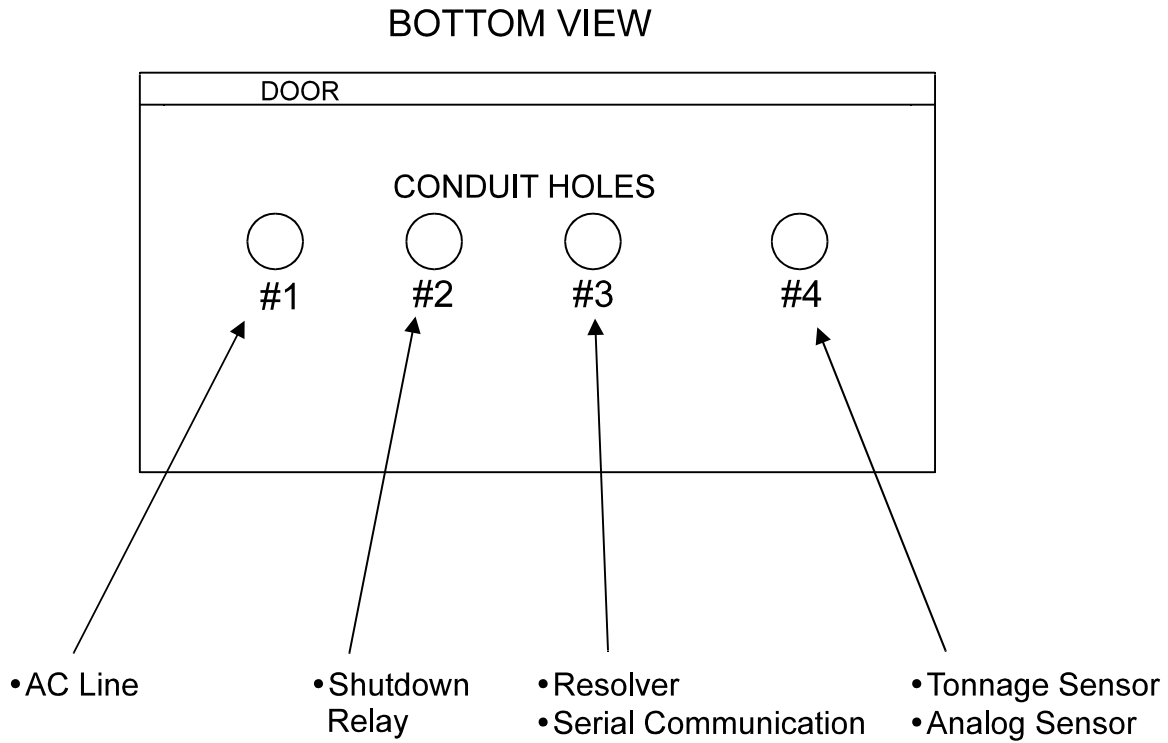
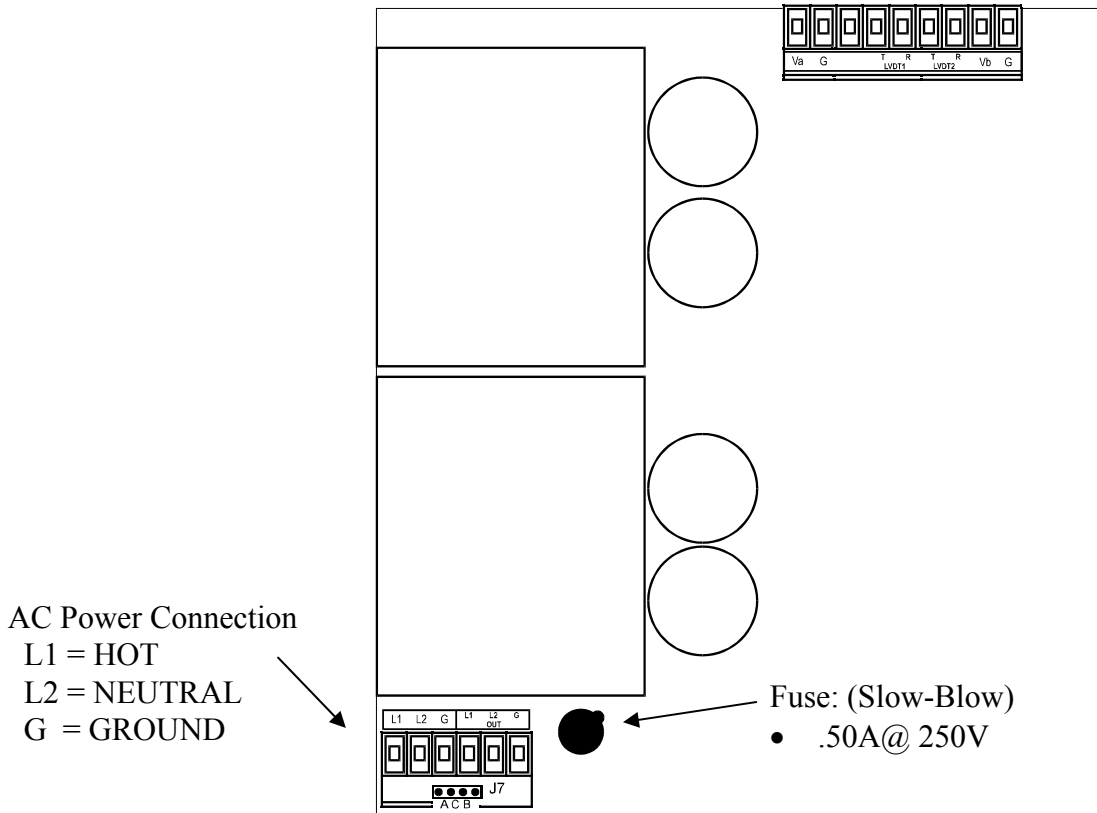

Figure 1-3: Conduit Hole Selection
Figure 1-5: AC Power Wiring
Follow Figure 1-3 to select the proper conduit hole for cabling. The holes are for 3/4" conduit, but they can be enlarged in the field if a larger fitting is required.
AC power is connected to the PW-LS as shown in Figure 1-5. Use Conduit Hole #1 (see Figure 1-3) for the AC Power Wiring. Use the proper fuse as indicated.
- 2) Run Tonnage Sensor Cables through the Conduit Hole #4 (see Figure 1-3), and route cables upward to the right of the Analog Board.
Use Conduit Hole #3 (see Figure 1-3) for the Resolver Cable. The resolver input consists of the following components:
The analog outputs are provided on an 11-pin connector for easy access and for interfacing with other peripherals. Use Conduit Hole #4 (see Figure 1-3) for the Analog Output wiring.